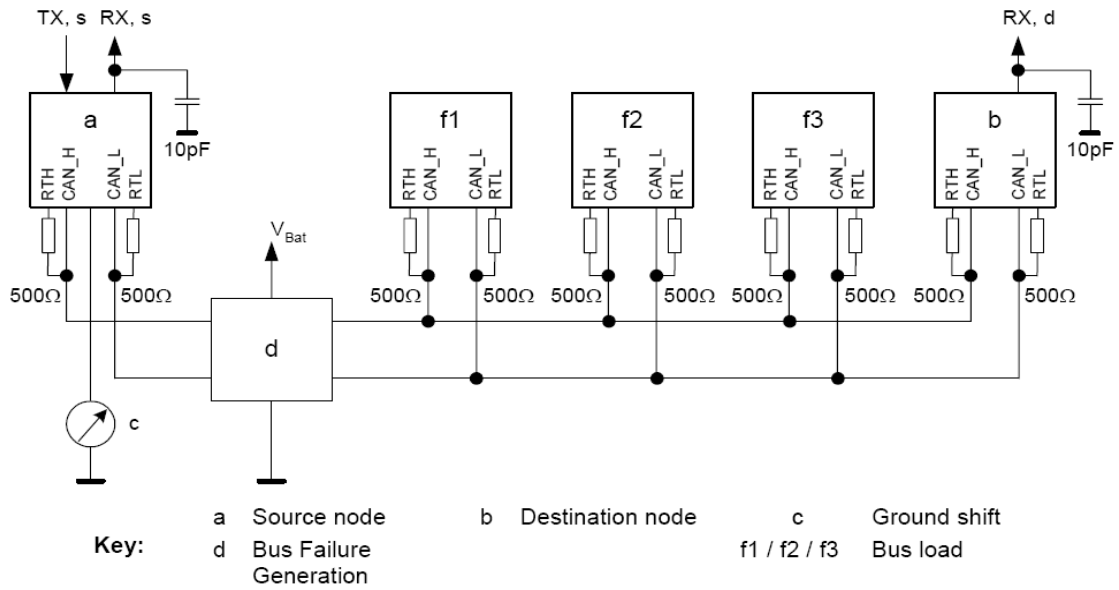

Figure 7. Test Set Up for Propagation Delay with GND Shift in a 5 Node Configuration
- AC characteristic according to ISO11898-3, tested per figure 7. Max reported is the typical measurement under the worst condition (gnd shift, dominant/recessive edge, at source or destination node. ref to ISO test specification). Guaranteed by design, room temperature only.